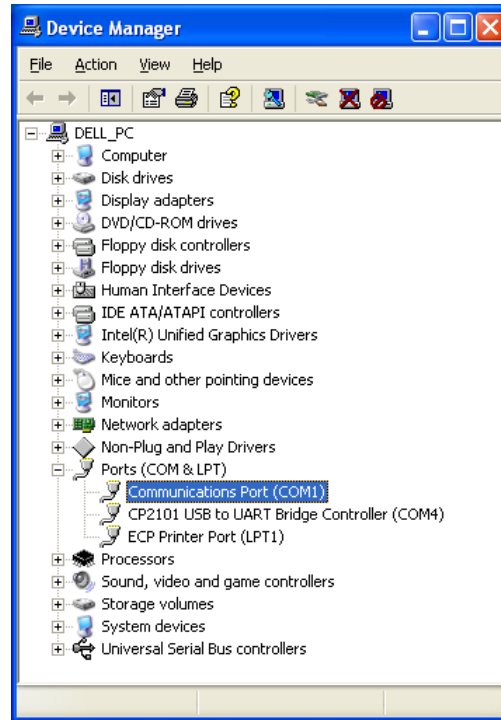
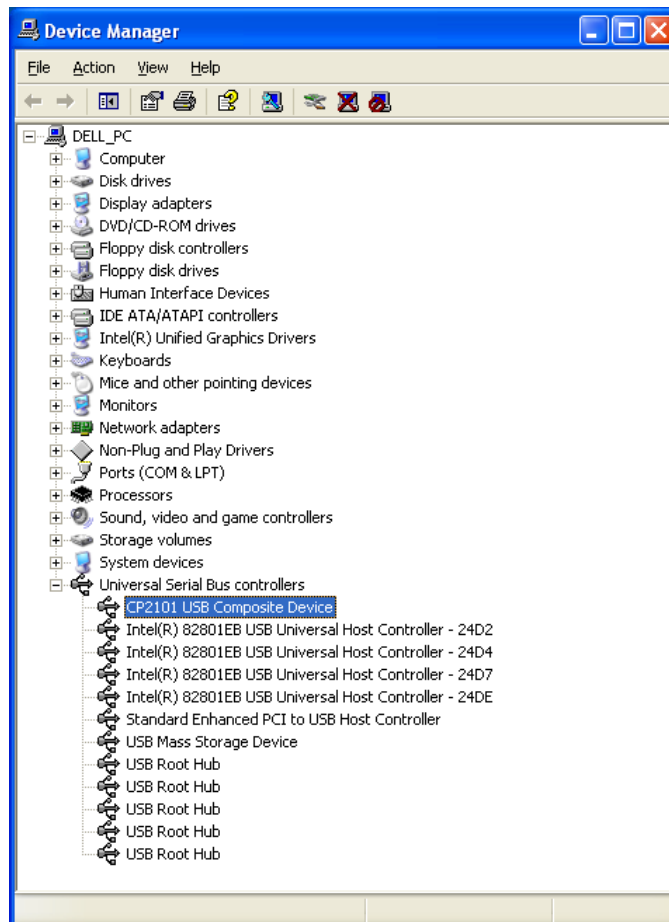
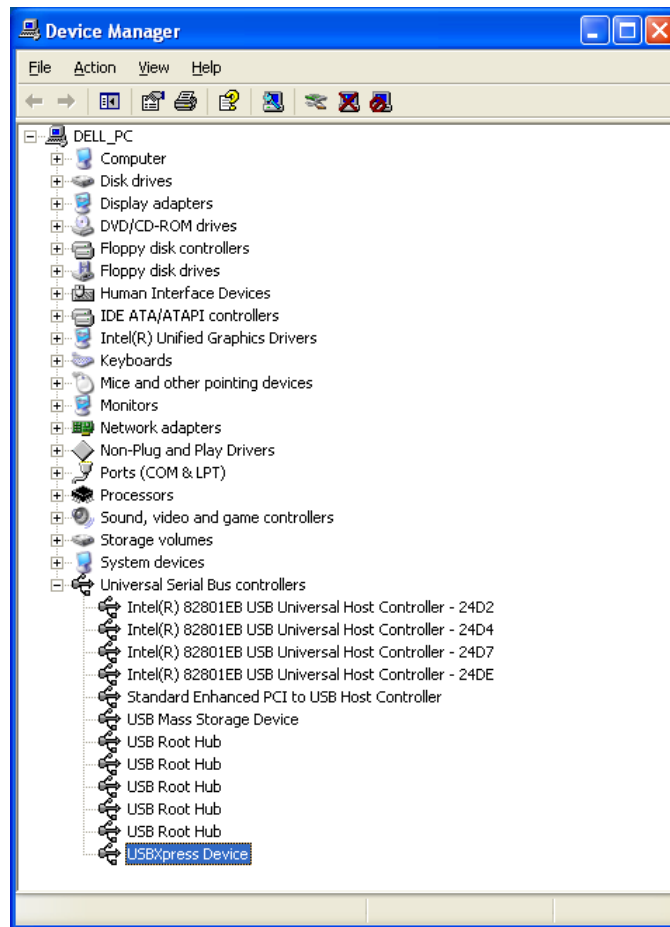

Fig. 13-2
Fig. 13-3
Fig. 13-14
If the items of the Fig. 13-2 [CP2101 USB to UART Bridge Controller] and the Fig. 13-3 [CP2101 USB Composite Device] are displayed when checked the error according to the procedure above, the restoration procedure provided in the next section is applied.
- (1) Right click on the Fig. 13-3, and then click the [Properties].
Check if the device type has changed from Fig. 13-3 [CP2101 USB Composite Device] in the procedure “13.1.1. How to check” to [USBXpress Device] that is highlighted in the Fig. 13-14 below.